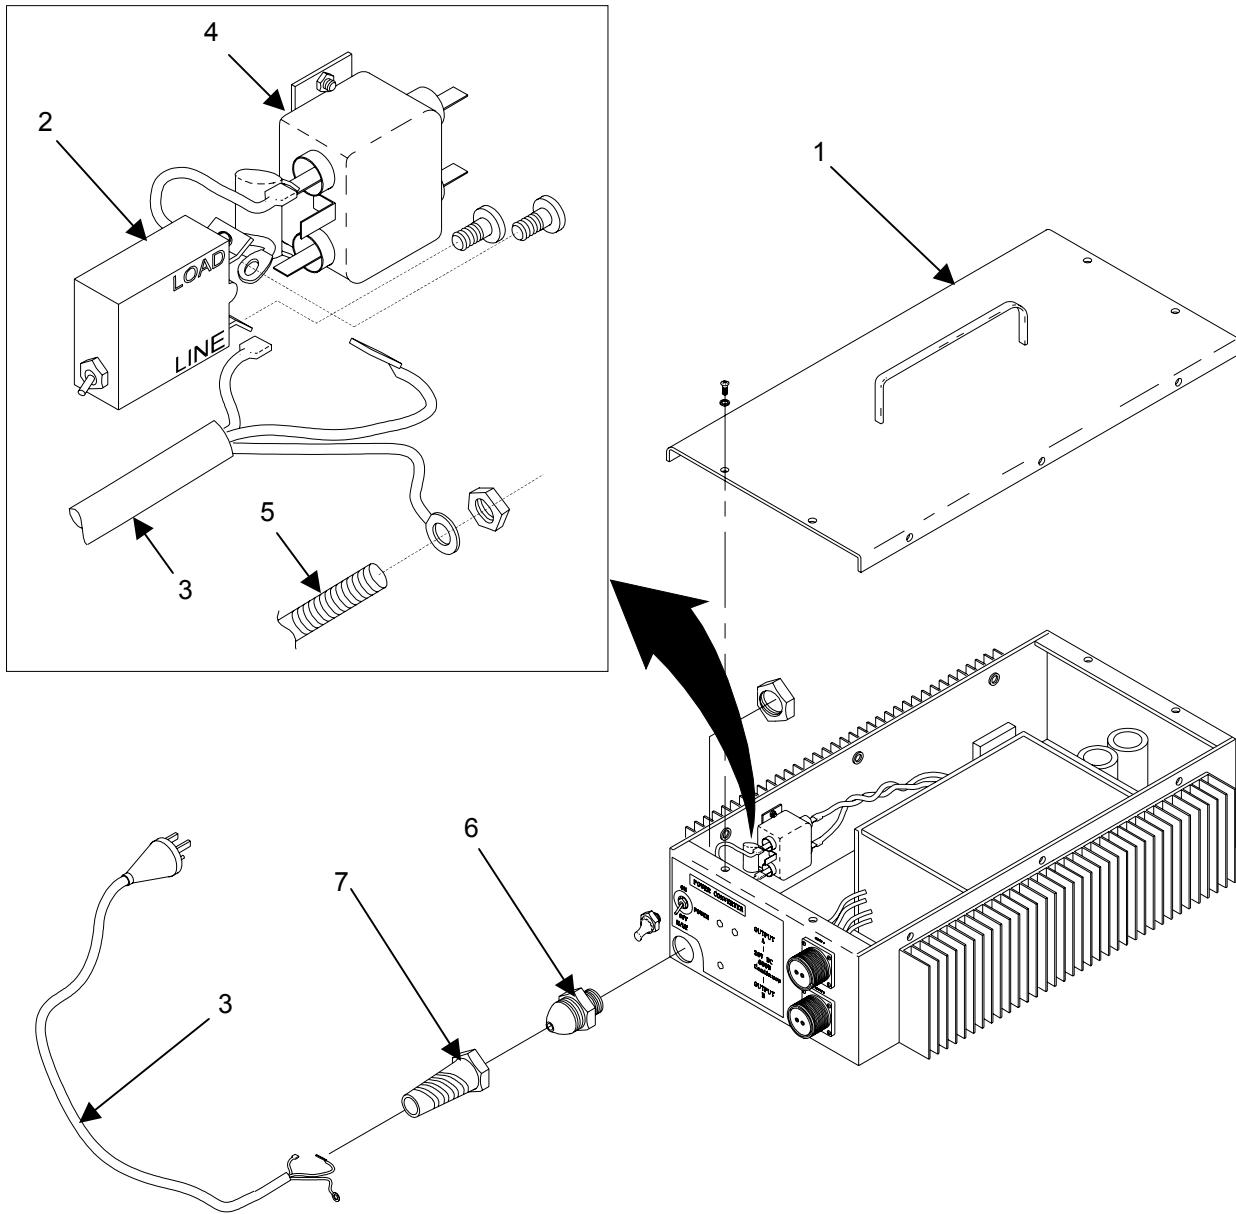

Figure 6. Replace the Power Cord (MS0150)
1. Remove the screws and lockwashers that secure the power converter cover (**figure 6, item 1**), and remove the cover.
2. Remove the main power switch (**figure 6, item 2**) as described above.
3. Take note of the color of the power cord (**figure 6, item 3**) wires and where they are connected to ensure that the cord is reconnected properly.
4. Disconnect the power cord (**figure 6, item 3**) spade terminal from the lower lug of the AC Filter (**figure 6, item 4**).
5. Remove the hex nut retaining the power cord (**figure 6, item 3**) ground wire to the grounding stud (**figure 6, item 5**) and remove the power cord ground wire.
6. Loosen and remove the plastic hex nut (**figure 6, item 6**) that secures the power cord strain relief (**figure 6, item 7**).
7. Pull the entire power cord assembly (**figure 6, item 3**) out of the power converter (**figure 6, item 8**).
8. Remove the strain relief (**figure 6, item 7**) from the power cord (**figure 6, item 3**).
9. Install the strain relief (**figure 6, item 7**) over the replacement power cord.
10. Insert the power cord (**figure 6, item 3**) and strain relief assembly (**figure 6, item 7**) through the hole in the front panel of the power converter. Secure with plastic strain relief hex nut (**figure 6, item 6**).
11. Connect the spade terminal of the BLUE wire to the lower terminal of the AC Filter (**figure 6, item 4**).
12. Connect the GREEN/YELLOW wire to the grounding stud (**figure 6, item 5**) on the inside surface of the front panel, and retain with hex nut.
13. Reinstall the main power switch (**figure 6, item 2**) as described above and connect the BROWN power cord wire to the terminal on the power switch labeled LINE. Secure with screw.
14. Reinstall the power converter cover (**figure 6, item 1**) and secure with screws and lockwashers.